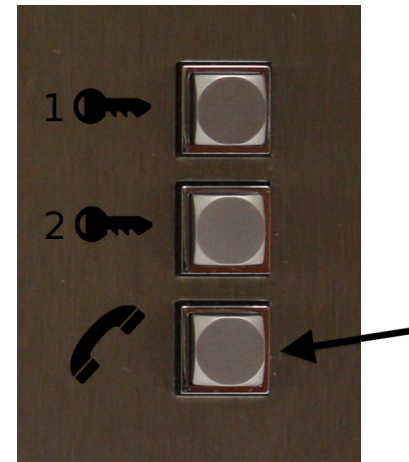

Figure 6
- Push the “Call” switch on remote unit to ensure it hangs up (see figure 6).